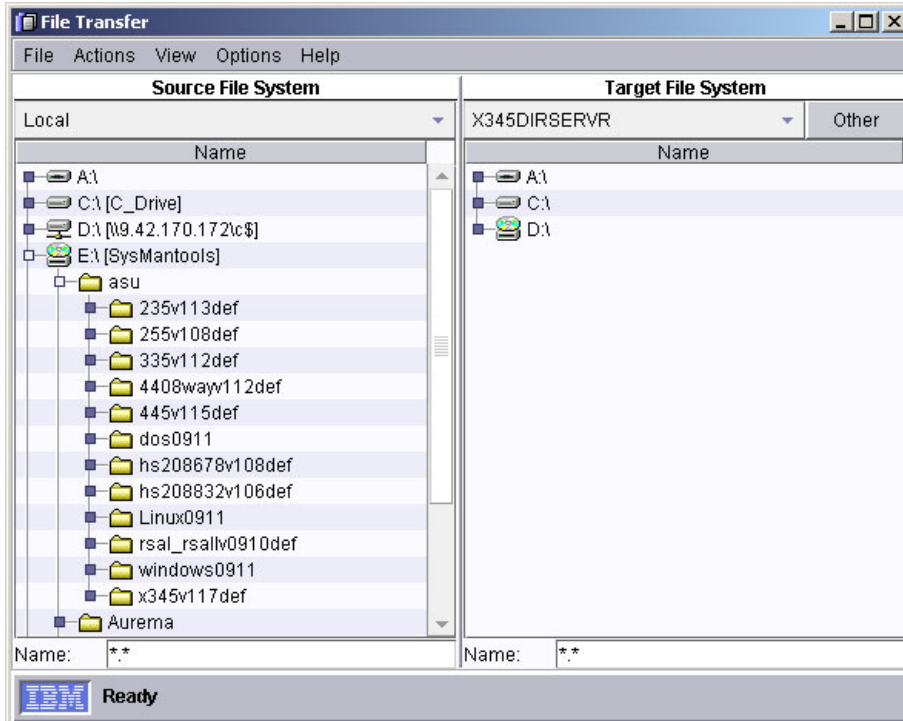

Figure 7-11 ASU download directory location on local
3. From the local (left) pane navigate to and expand the directory you downloaded the ASU tool to. See Figure 7-11 on page 255.